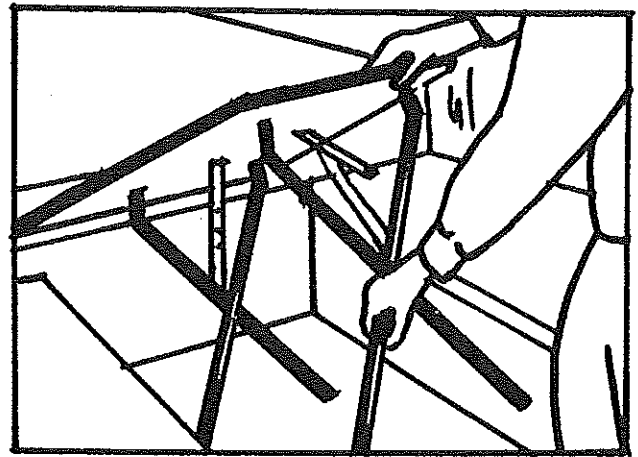

FIGURE 28
39. Extend the table legs completely so that both leg supports lock into position. Set table upright and check to insure it is stable. (See Figure 28.)
13. Secure the dinette table by locating it on the rests between the bench seats. See Figure 28.